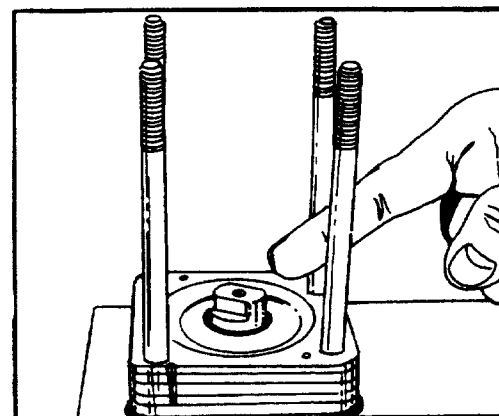

FIGURE 52.
8. Apply clean grease to the face of the upper cover plate (32), to the drive plate end of the input shaft/wheel tube (33) and to the face seal (29). See figure 52.